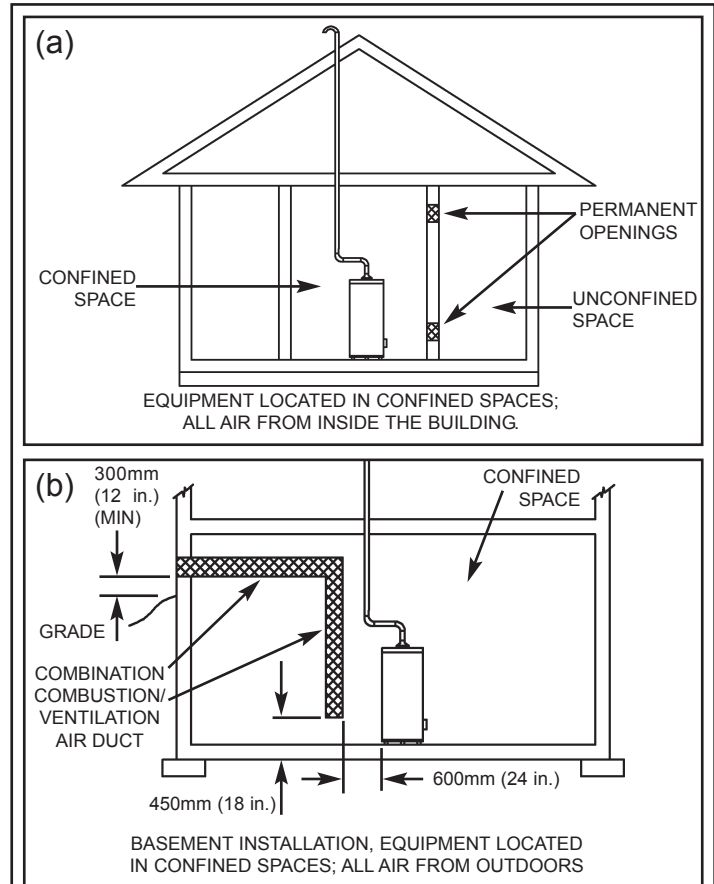

Figure 4 Combustion Air Supply Openings And Ducts (Canada)
Refer to Figure 4 (a), or (b), and Table 1 for proper sizing and location of combustion air ducts and openings. **CHECK LOCAL CODES.**
- a). Two permanent openings shall be provided connecting the confined space (e.g., closet, small room) with the unconfined space. Each opening shall have a free area of one square inch per 1,000 BTU/hour input (22 cm²/kW) of all appliances in the confined space. The top opening shall be located as close to the ceiling as practical but never lower than the top of the heater. (see Figure 4 (a)). The bottom opening shall be located neither more than 450mm (18 in.), nor less than 150mm (6 in.), above floor level.
- b). When using a single air supply, the duct shall terminate within 300mm (12 in.) above and within 600mm (24 in.) horizontally of the burner level of the appliance having the largest input. For example: GSW's water heaters' burners are 150mm (6 in.) from the floor, plus 300mm (12 in.) equals 450mm (18 in.) as shown in Figure 4 (b). All exterior vent openings are to be at least 300mm (12 in.) above the ground and clear of snow levels.